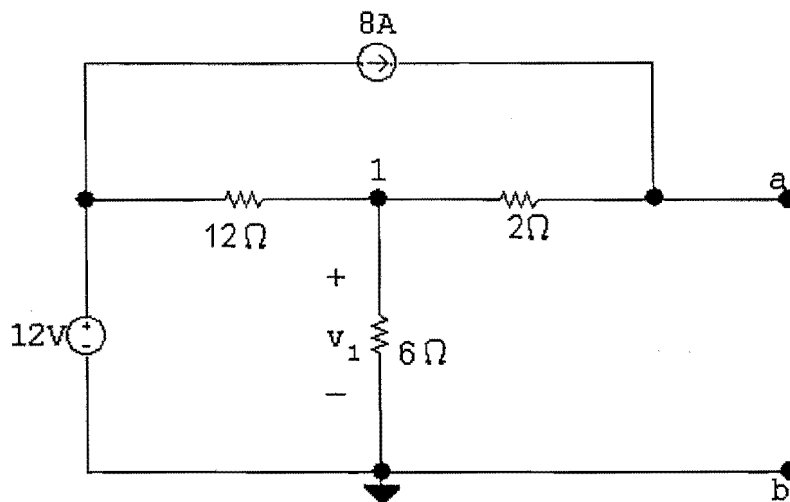

Figure 3
- b. Find the Thevenin equivalent with respect to the terminals a, b for the circuit in Figure 3. [6 marks]